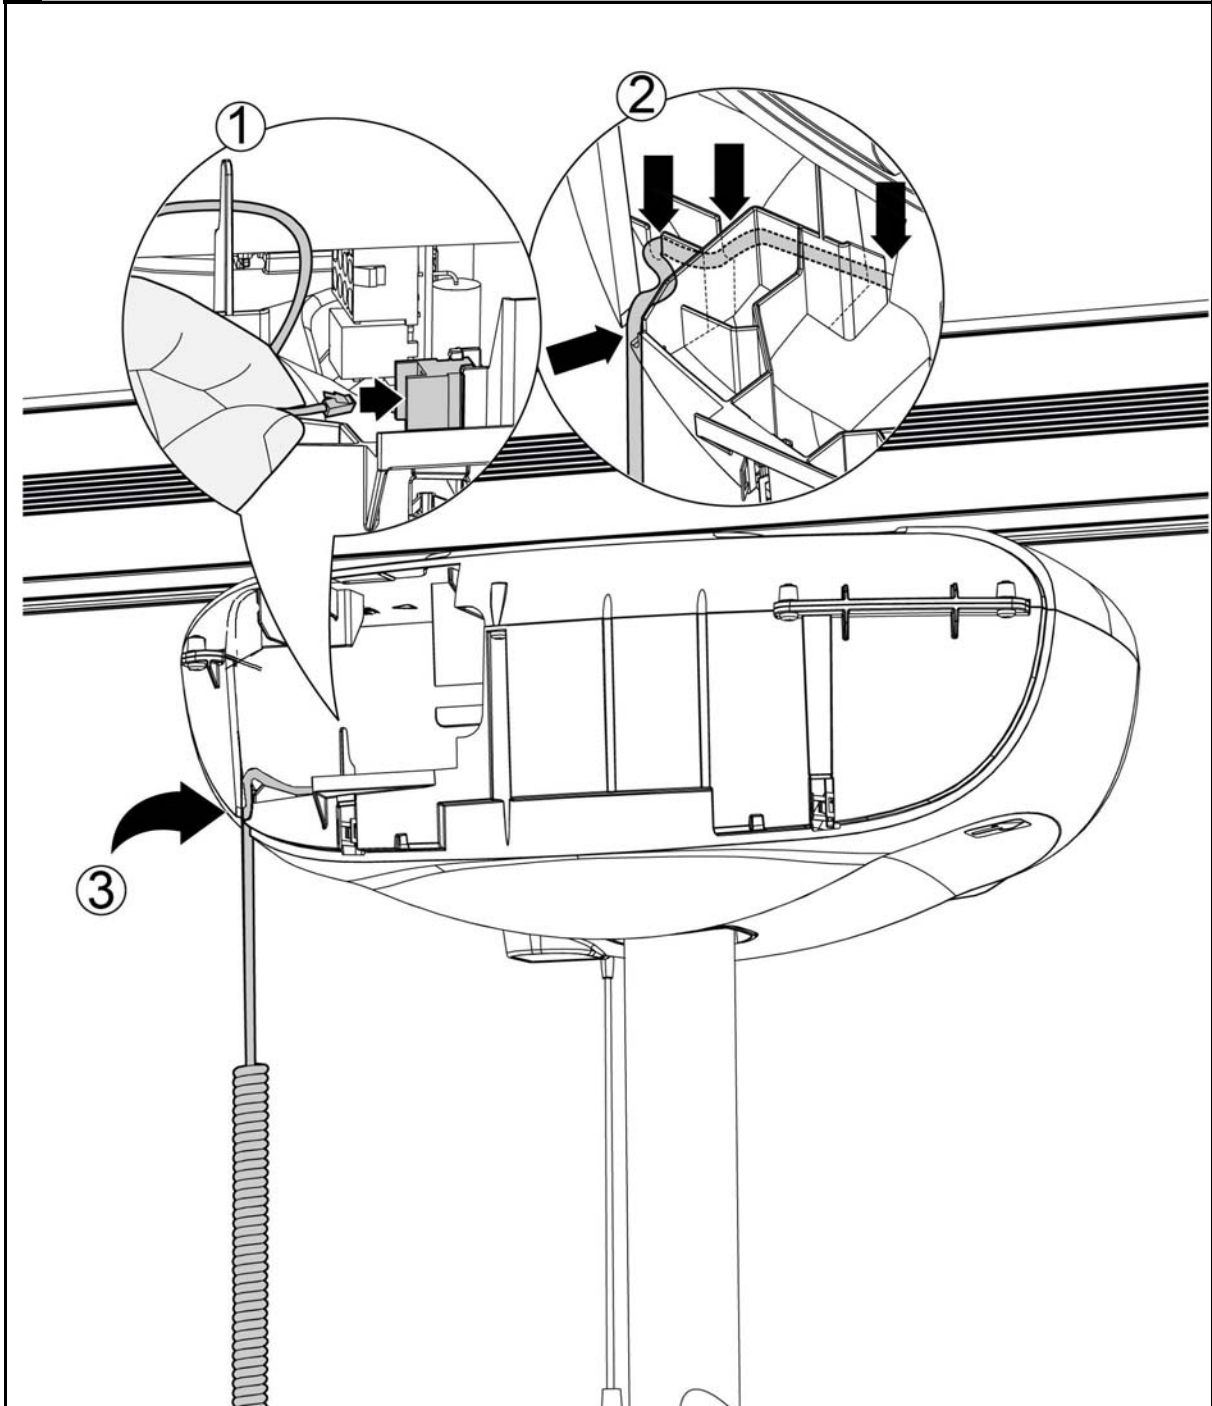

Fig. 18
- ① Slide the clevis pin into the spreader bar connector and the looped end of the strap.
- ② Install the split ring on the clevis pin.
- ③ Reinstall the handset (see Fig. 18).